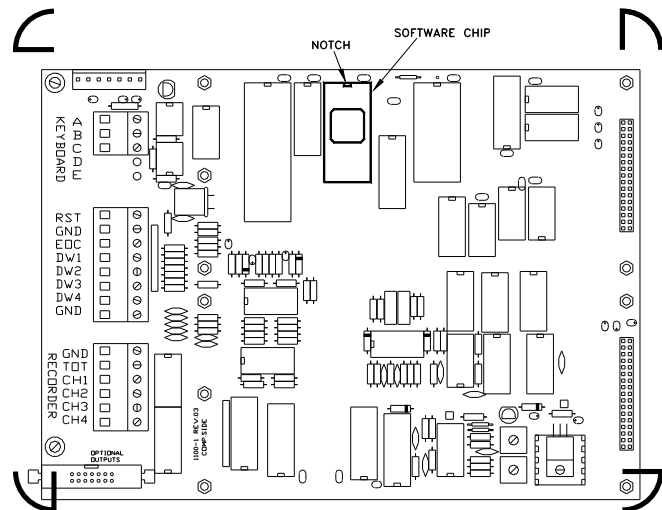

Figure A.2: System 1100 Motherboard Circuit Board
- ◆ Using Figure A.2, locate the software chip on the 1100-1 circuit board and remove it.